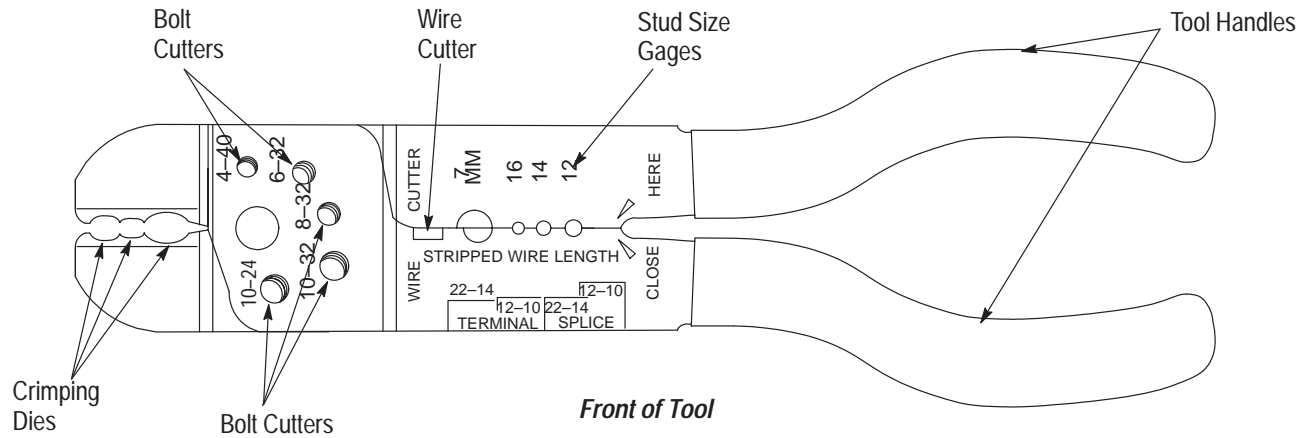

Figure 1
2. Thread the bolt into the appropriate sized opening on the side of the tool marked, "INSERT SCREW HERE". See Figure 1.